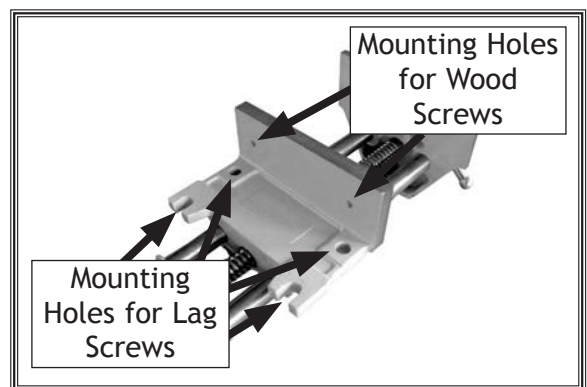

Figure 3. Mounting hole locations.
3. Use a $\frac{1}{8}$ " drill bit to drill pilot holes approximately $1\frac{1}{2}$ " deep in the face of the workbench, where the wood screws will be used (see Figure 3).